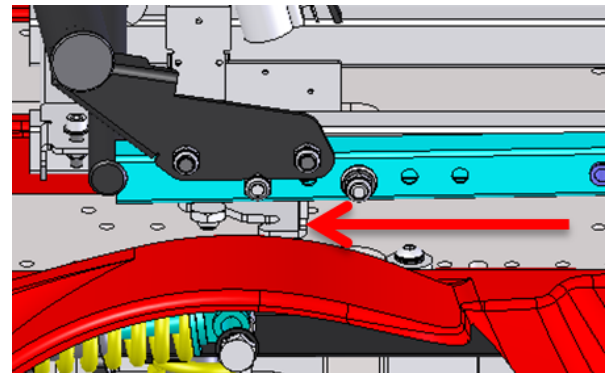

Figure 5.3.19-16
5.3.19.16 Push the seat backwards and ensure the fixing pins on the interface plate are properly seated in the slots under the seat frame. (Figure 5.3.19-16)